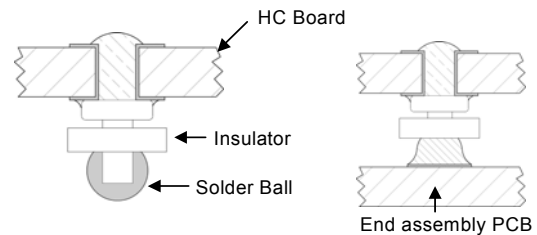

Figure 23. Column Pin Connector Before and After Reflow Soldering.
The surface mountable modules in the HC family use our newest SMT technology called "Column Pin" (CP) connectors. Fig 23 shows the new CP connector before and after reflow soldering onto the end-board assembly.